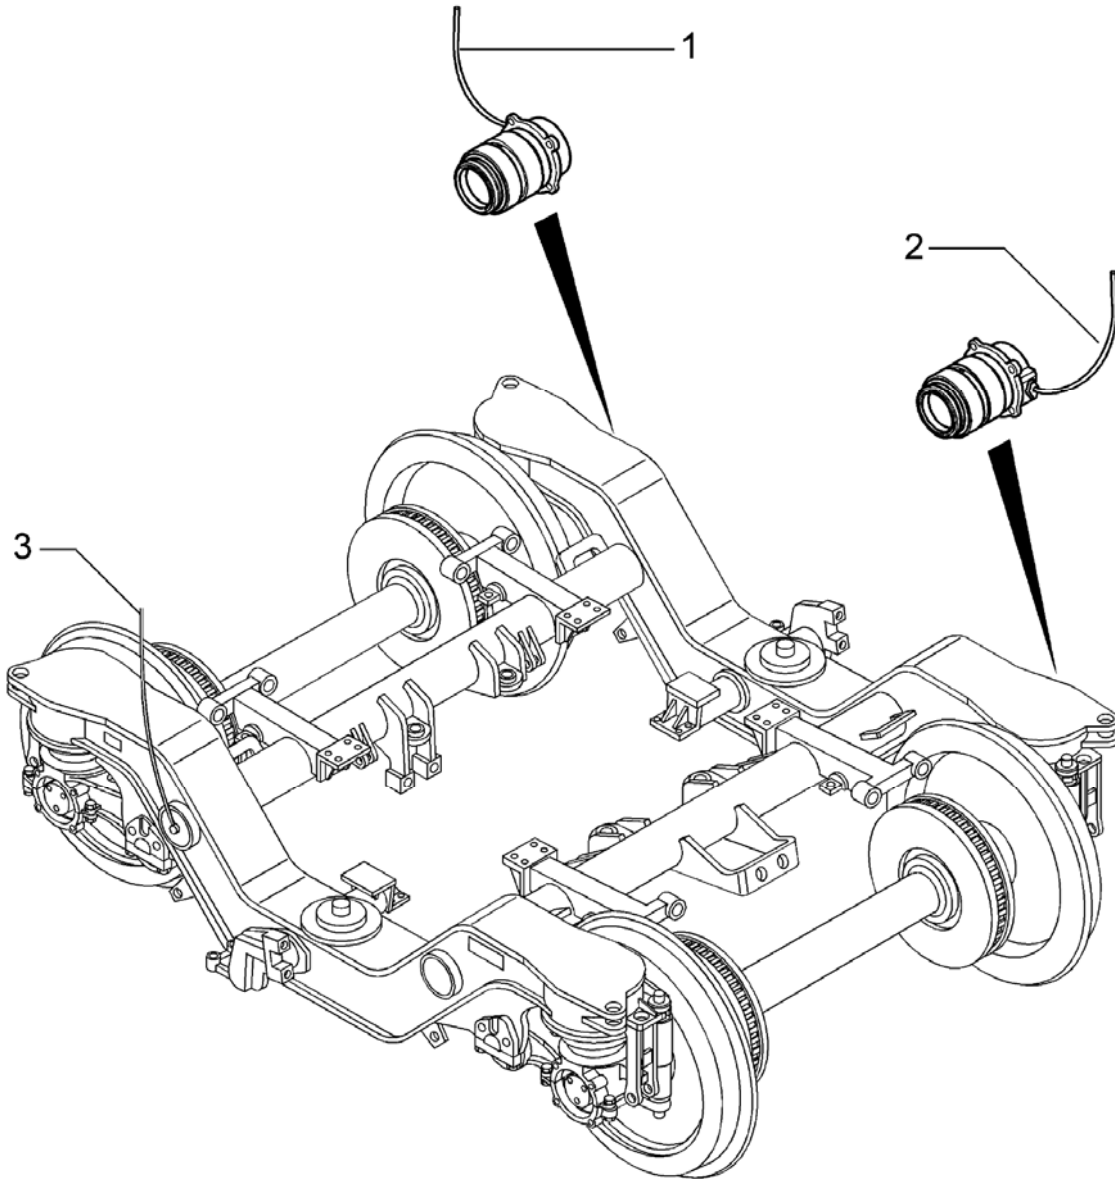

FIG. 4-15 DISCONNECTION OF THE SENSOR CABLES
Disconnect the cables (1, 2 - FIG. 4-15) which link the sensors on the axle-bearings to the coach body equipment, and the ground cable (3) between the coach body and the frame.